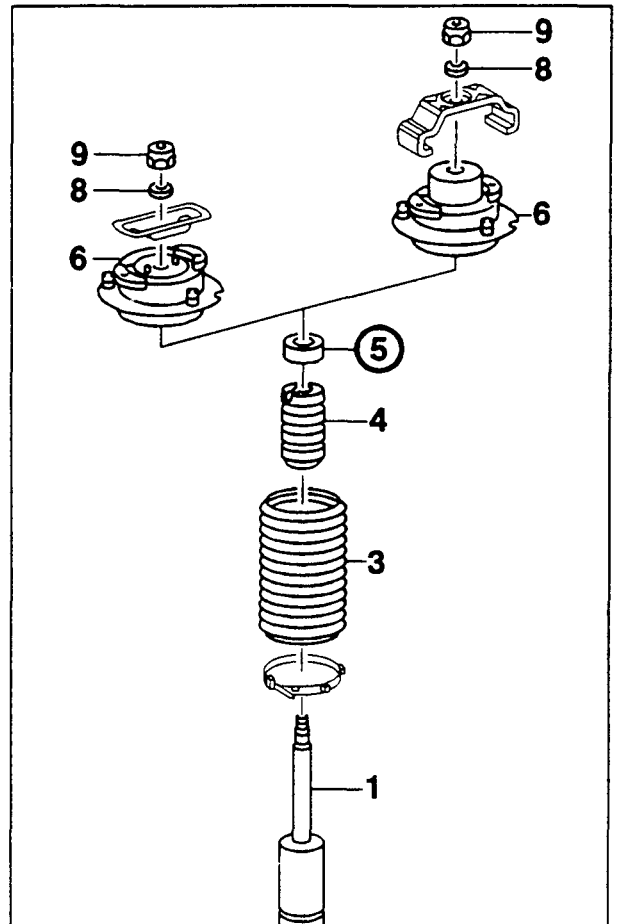

Figure 13
3. Loosen front axle damper strut at upper strut mounting (6), apply counter hold to piston rod (1, Figure 13).
5. Install spring travel limiting washer (5) onto piston rod (1) over strut bumper (4, Figure 13).
Use new self-locking nuts (9) and washers (8, Figure 13) on upper strut mounting.